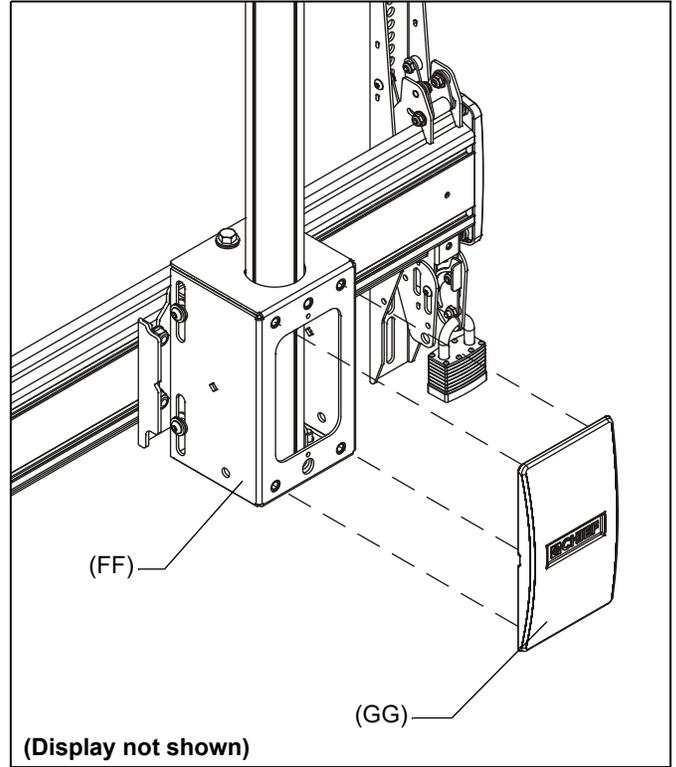

Figure 24
2. Install back cover (GG) into four holes on back of both array heads (FF). (See Figure 24)